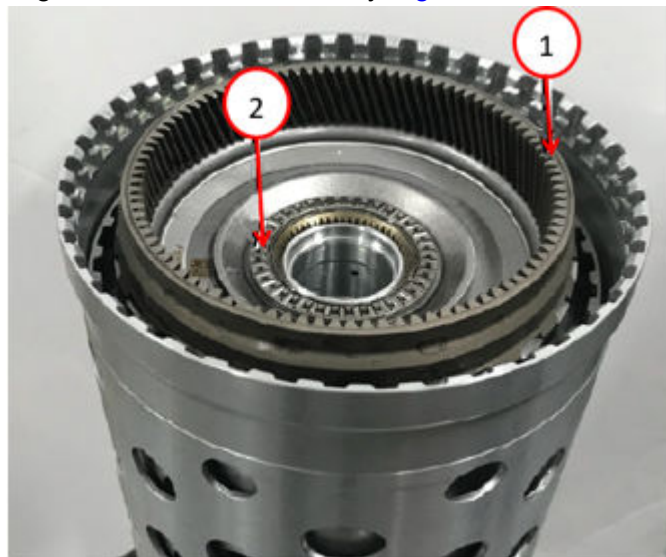

Fig. 29
42. Install the P2 annulus/P3 sun gear in the drum assembly Fig. 29.